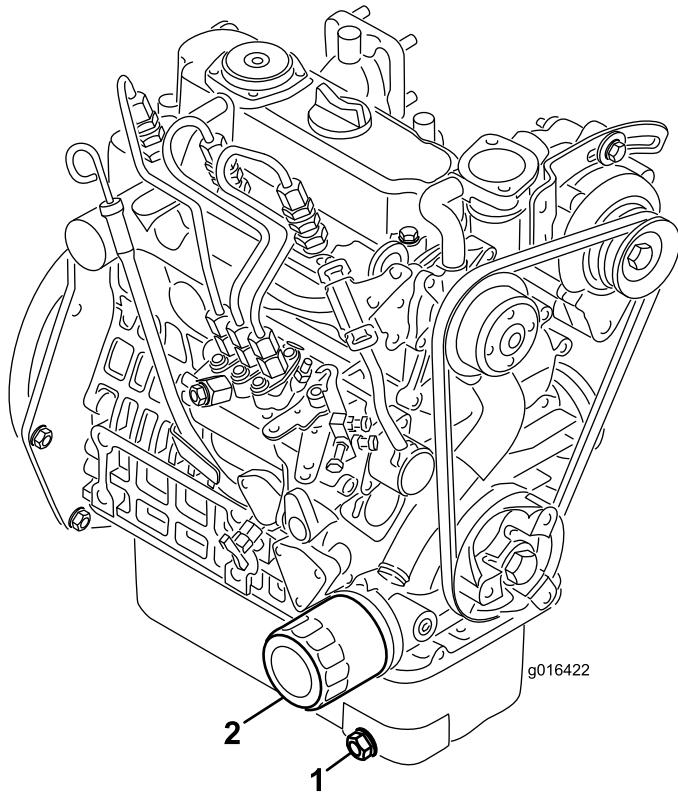

Figure 38
- Remove the drain plug (Figure 38) and let the oil flow into a drain pan. When the oil stops, install the drain plug.